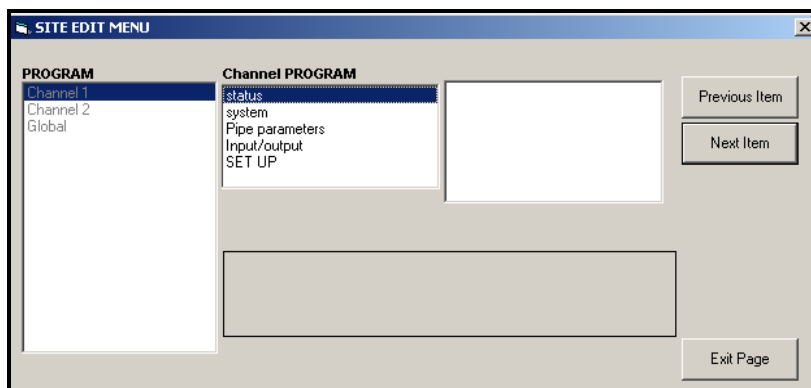

Figure 42: The *Site Edit Menu* Window
3. To enter data into the user program, double-click on the *Site Edit Menu*. The window appears similar to Figure 42.
4. To enter a particular menu (Channel 1, Channel 2, or Global), highlight and double-click on the desired menu in the left pane. For example, clicking on Channel 1 in Figure 42 opens the list of options shown in the center pane.
3. Double-click on the desired option. PanaView returns to the Channel menu shown in Figure 42 on page 97. Proceed to the System option.
- If you have activated neither option, PanaView returns to the Channel PROGRAM window shown in Figure 42 on page 97. Proceed to the Pipe option.
- If you have not enabled the option, PanaView returns to the Channel PROGRAM window shown in Figure 42 on page 97. Proceed to the Pipe option.